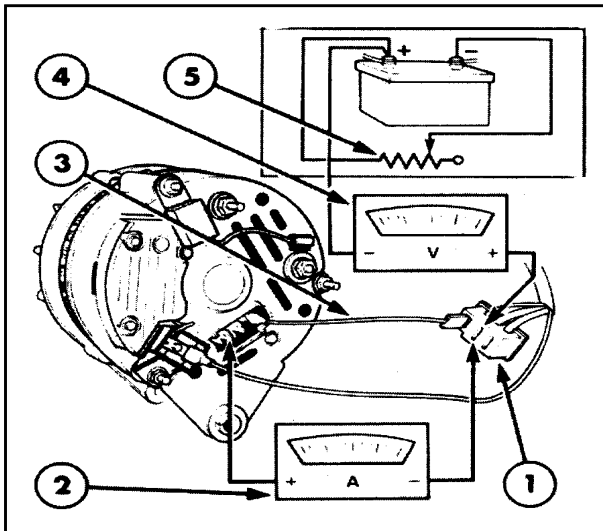

Figure 14
1. With reference to Figure 14. Ensure the key start switch is in the "OFF" position.